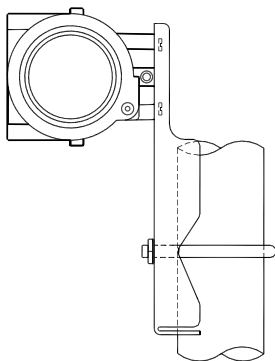

Figure 2.1 The installation of pipe
**The installation of pipe mounting flat bracket:** the typical installation as Figure 2.1 shows. Fix NCS-IF105 converter in flat bracket using four bolts provided, and then fix the flat bracket on the vertical pipe in  $\Phi 50\text{mm}$  around through the U-shape bolt provided.